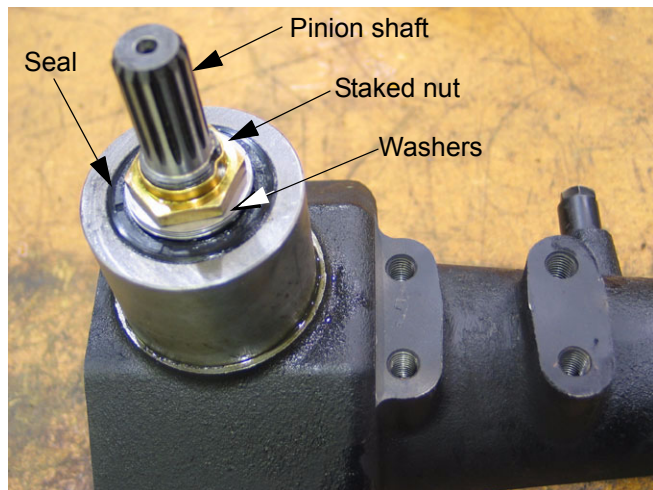

Figure 9.16
- 9.16. The nut that holds the pinion assembly in place is staked into position. The staking must be chiseled-out. See Figure 9.16.